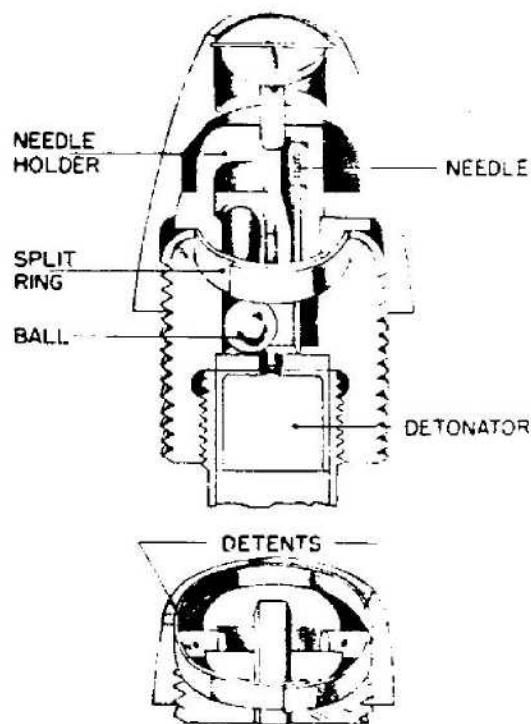

Figure 553—A. Z. 1503 and A. Z. 1504
**EMPLOYMENT:** Nose fuzes used in German 20-mm. ammunition. (See fig. 553.)